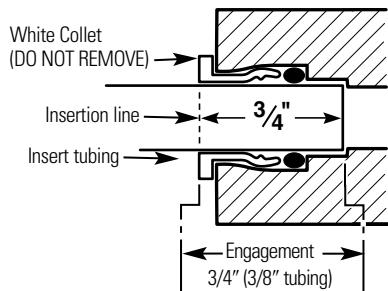

Fig. 7
3. Push the tubing firmly into each fitting on the manifold until the line is flush with the fitting collar. (If the tubing is removed, re-cut the end, measure, mark and re-insert). Tubing must be fully inserted to avoid leaks (Fig. 7). (**To remove tubing, depress and hold white collet; pull tubing out to remove.**)